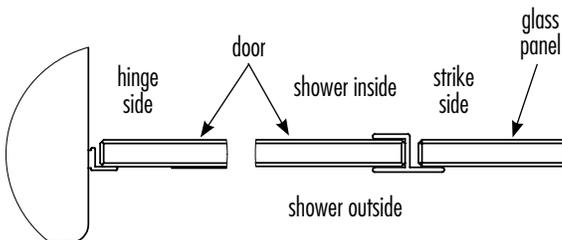

figure 34
13. The L shaped seal goes along the hinge side of the door on the threshold trim pieces (fig. 34).
18. Locate the plastic H shaped seal. It goes on the door strike side, opposite of the hinge (fig. 34). Measure and cut the seal to length.